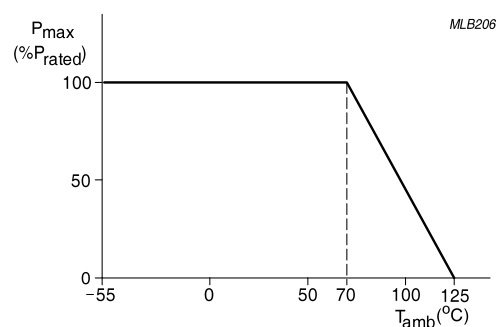

Fig. 6-1 Maximum dissipation ( $P_{\max}$ ) in percentage of rated power as a function of the operating ambient temperature ( $T_{\text{amb}}$ )
**FUNCTIONAL DESCRIPTION****OPERATING TEMPERATURE RANGE**PE0201 to PE0402 Range:  $-55^\circ\text{C}$  to  $+125^\circ\text{C}$  (Fig. 6-1)PE0603 to PE2512 Range:  $-55^\circ\text{C}$  to  $+170^\circ\text{C}$  (Fig. 6-2)**POWER RATING**Standard rated power at  $70^\circ\text{C}$ :